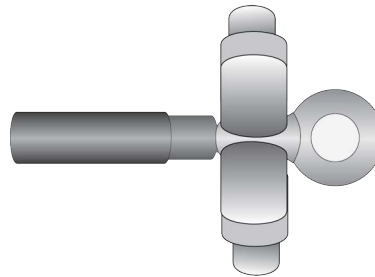

Figure 33. Crimping the Ring Terminal Lug
4. Crimp the ring terminal lug with a wire crimping tool to secure it on the grounding wire. Refer to Figure 33.